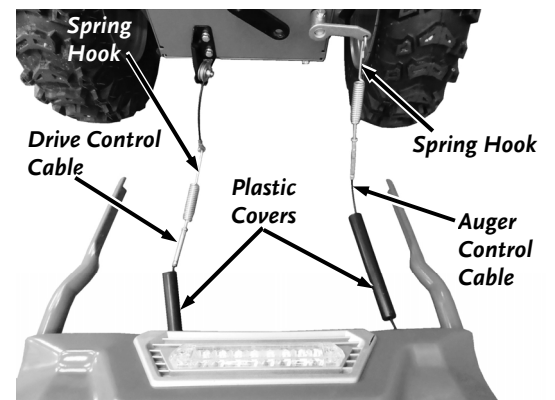

Figure 8
2. Move the Plastic Covers away from the Cable Spring Hooks to expose the Hooks (Figure 8).